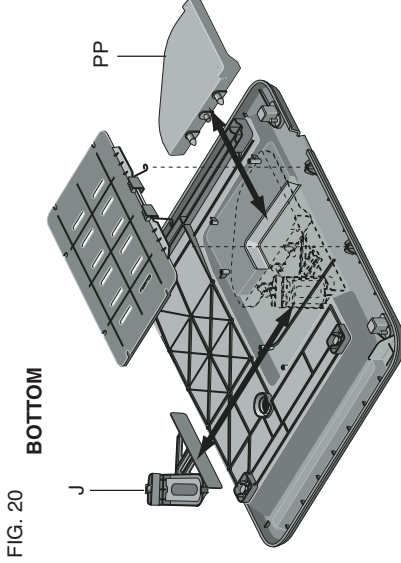

FIG. 20
The edge guide (J) and the cutting cart extension (PP) may also be stored in the underside of the water pan (Fig. 20).